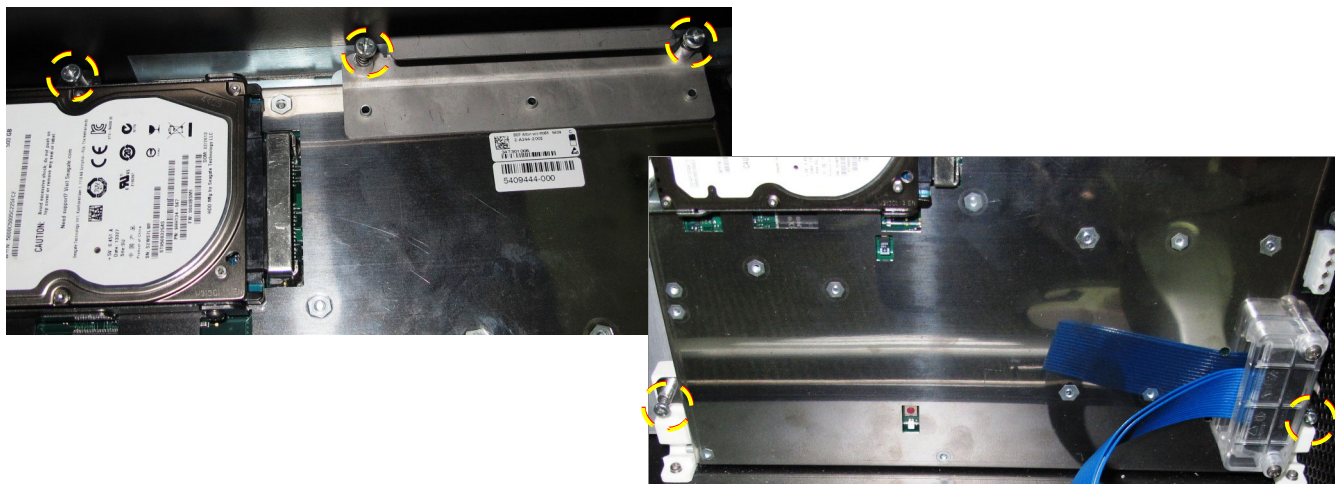

Figure 8-149 BEP Securing Screws
- 6.) Loosen 5 BEP securing screws - 3 upper screws (top, left in Figure 8-149) and two lower screws (bottom, right).
- 2) Check that the BEP is seated correctly then return and fasten the 5 screws (previously loosened) to secure the BEP on the device's chassis - refer to Figure 8-149 on page 8-118.